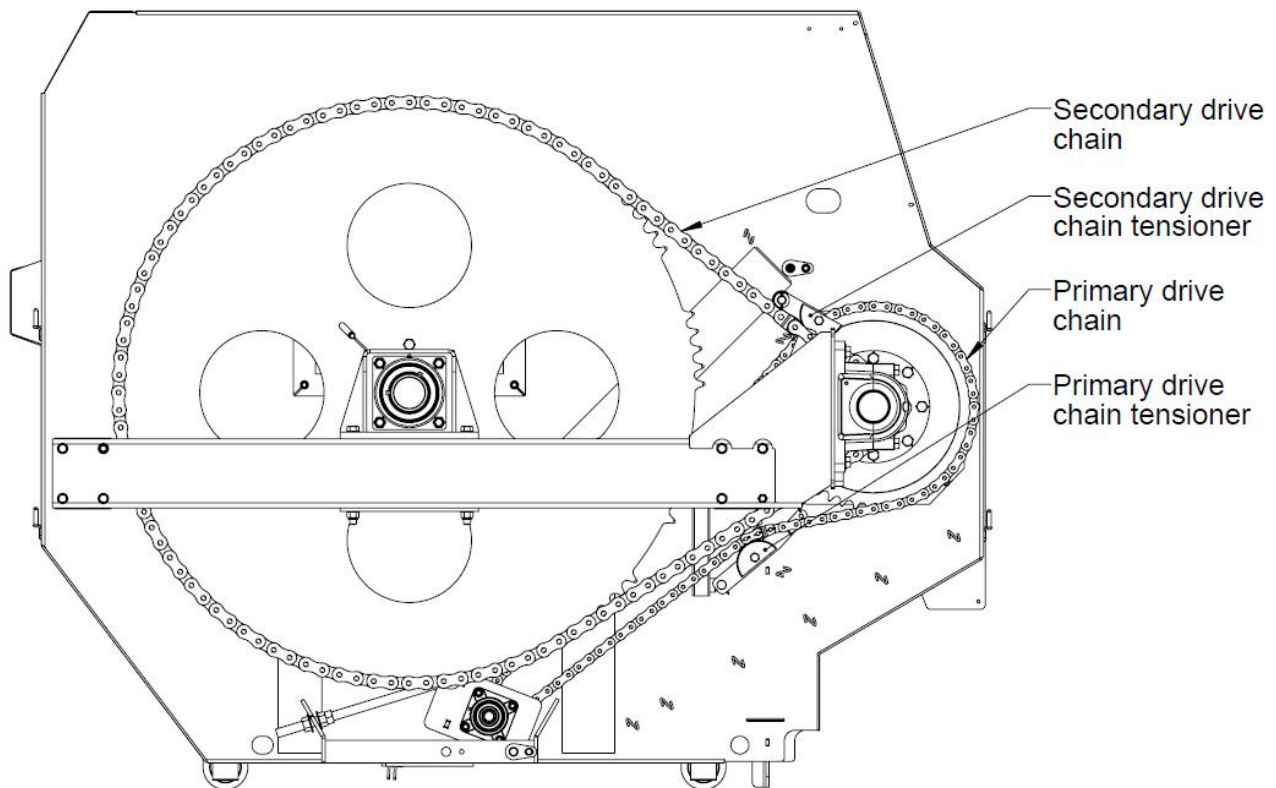

Figure 10: Front panel of Keenan Mech-Fiber Mixer Wagon
- Each week check the condition of the chain tension arms and adjust as required. There are two chains used on the Keenan Mech-Fiber 350 model. The primary drive chain (ASA120) drives the auger shaft and the secondary chain (ASA160HS) drives the rotor (see figure 10). Both chains are tensioned by spring assemblies on the slack side of the chain.